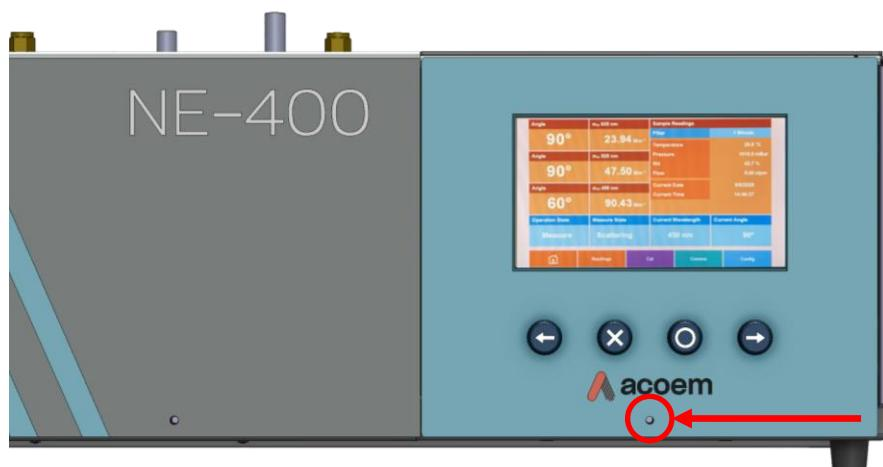

Figure 19 – Transit Thumb Screw Location
1. Refer to Figure 19. Remove the transit thumb screw located on the front door.